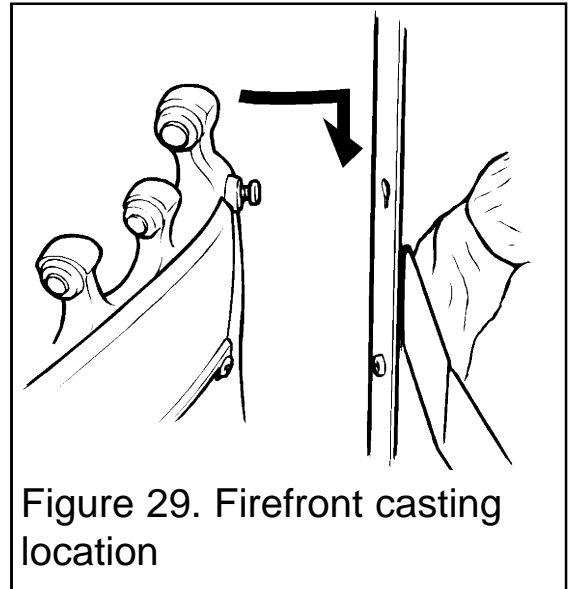

Figure 29. Firefront casting location
1. All models except black & chrome front casting: Fit the fire front casting to the front surround. Locate the two screw heads at the rear top corners of the casting through the keyhole slots at the inner sides of the surround. If the screw heads do not project enough or project too far, the screws can be adjusted. Lower the casting so that it rests on the hearth. See figure 29.